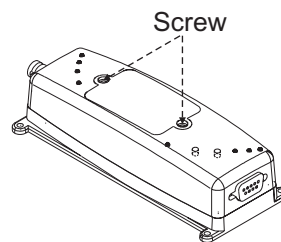

Figure 1. - Screw Location
3. Remove the battery cover by removing the two screws located on top of the CDM-810. (See Figure1)